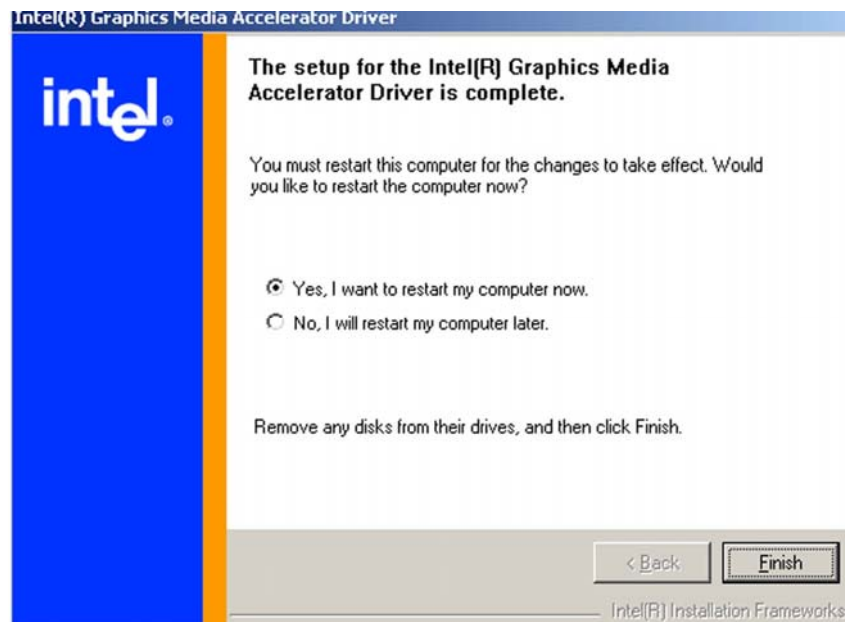

Figure 6-11: VGA Driver Installation Complete
Step 8: After the driver installation process is complete, a confirmation screen shown in Figure 6-11 appears.
Step 9: The confirmation screen shown in Figure 6-11 allows user to restart the computer immediately after the installation is complete or to restart the computer later. For the settings to take effect the computer must be restarted. Once decided when to restart the computer, click the “**FINISH**” button.